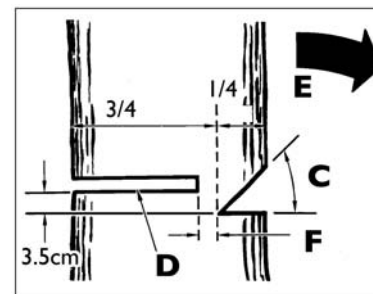

Fig. 10B
Warning! Never walk in front of a tree that has been notched. Make the felling cut (D) from the other side of the tree and 3-5cm above the edge of the notch (C) (Fig. 10B).